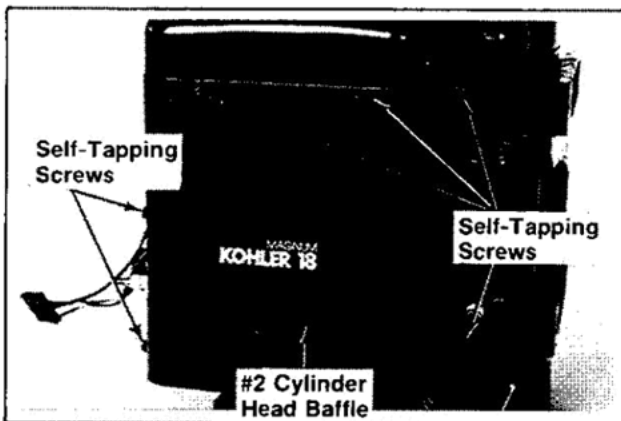

Figure 9-14. Removing #2 Side Cylinder Head Baffle.
2. Remove the self-tapping screws and #2 side cylinder head baffle. Refer to Figure 9-14.